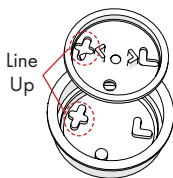

Figure 1
STEP 5 Insert the **Plastic Disc** into the **Membrane**. **FIG 1**
STEP 7 Slide the **Bumpers** into place so that the mounting holes on the **Water Shield** line up with the mounting holes on the **Bumpers**. **FIG 1**
STEP 8 Using a **3/16" Allen key**, install the (2) **Screws** and tighten to **20 in lbs**. **FIG 1**